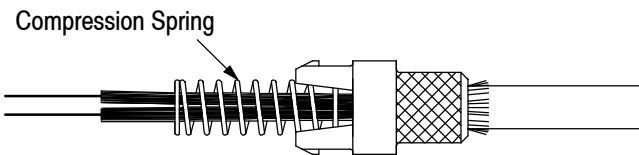

Figure 9
9. Place the compression spring over the fibers. See Figure 9.